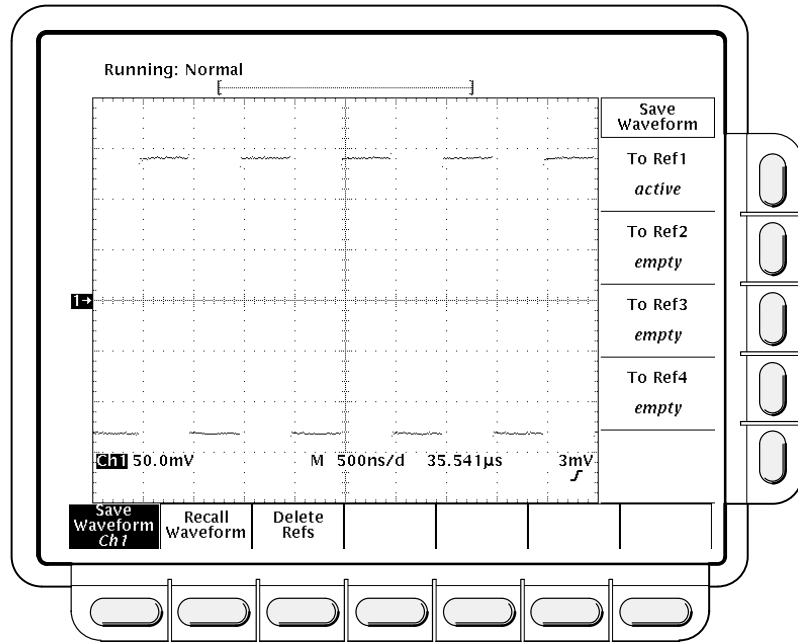

Figure 3-52: Save Waveform Menu
Before doing step 2 that follows, note that if you choose a reference memory location labeled **active** (see Figure 3-52), you will overwrite the waveform previously stored there. You can store waveforms in reference locations labeled **empty** without disturbing previously stored waveforms.
2. Press save/recall **WAVEFORM** → **Save Waveform** (main) → **Ref1, Ref2, Ref3, or Ref4** (side) (Figure 3-52).